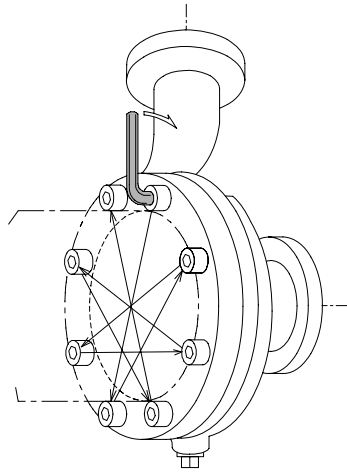

Fig.4-27 Bolt Tightening Sequence
- (9) Casing mounting bolts (111) should be tightened uniformly in sequence in symmetrical positions. They should not be one-sidedly tightened. (Refer to Fig.4-27.)